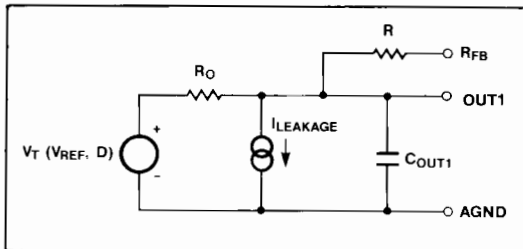

Figure 2. MX7548 Equivalent Analog Output Circuit
Figure 2 shows the equivalent circuits for the MX7548 analog section. The  $I_{LEAKAGE}$  current sources represent junction and surface leakage currents. The equivalent output resistor of the DAC is  $R_O$ , which varies with digital input code from  $0.8R$  to  $2R$  (infinite at zero code), where  $R$  is typically 11k $\Omega$ . Capacitor  $C_{OUT1}$  represents the capacitances of the switches used in the R-2R ladder. When inputs are switched from low to high, the capacitance at OUT1 changes from about 40pF to 100pF. This capacitance is code-dependent and is a function of the number of ON switches that are connected to the output.  $V_T(V_{REF,D})$  is the equivalent voltage source controlled by  $V_{REF}$  and the digital input code (D).